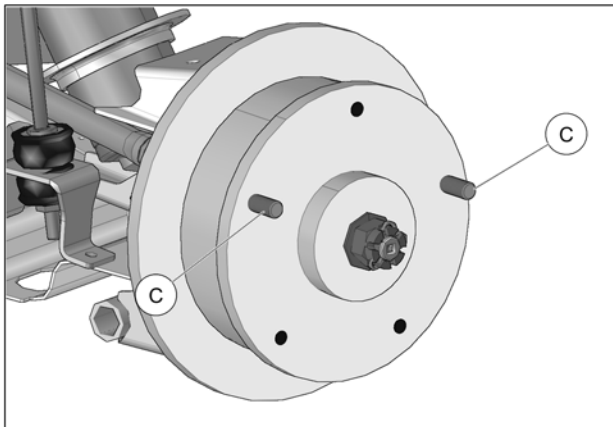
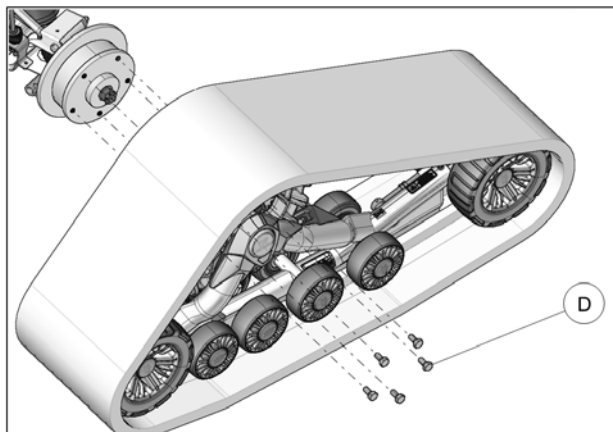

Fig. 9
Fig. 10
**CAUTION:** Screw the supplied threaded studs (C) in the hub to help position the System correctly on it. See Fig. 9
9. Secure the undercarriage to the rear hub using the provided wheel bolts (D). To install the Track System, screw the two threaded studs (C) provided at the 10 and 2 o'clock positions on the hub. Slide the undercarriage on the studs, and bolt it to the hub with three wheel bolts. Remove the studs and install the last two wheel bolts. See Fig. 9 & Fig. 10
9. Using the provided wheel bolts (D), secure undercarriages to front wheel hubs. The procedure and precautions are the same as for rear units. Refer to Fig. 10